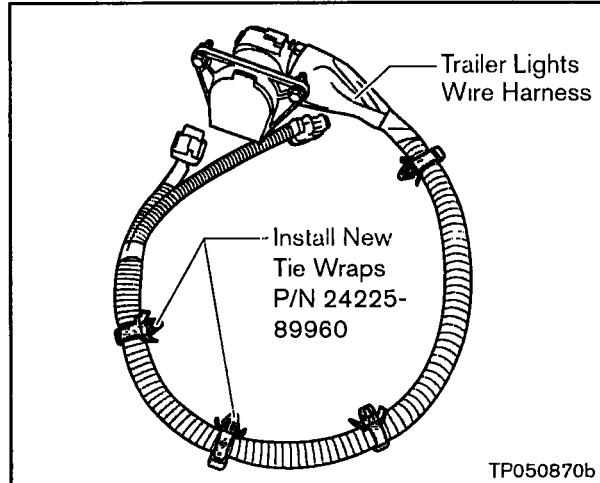

Figure B8
- b. Remove two damaged Tie Wraps from the Trailer Lights Wire Harness (see Figure B8). These were cut when the harness was previously removed from the vehicle. Then install two new Tie Wraps in the exact same locations.